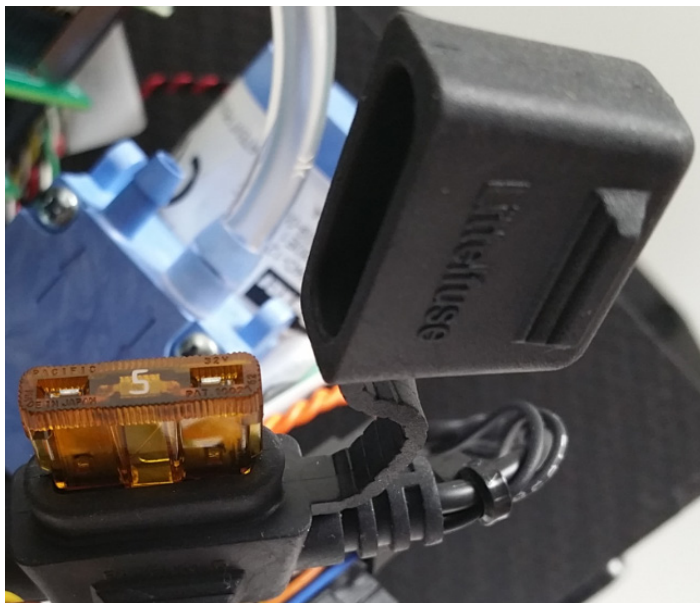

Figure 53 Fuse with Fuse Cover Removed
- 7 Remove the fuse from the fuse fixture: Pull the cover off, then slide the fuse out. Figure 53 shows the fuse with the cover removed.